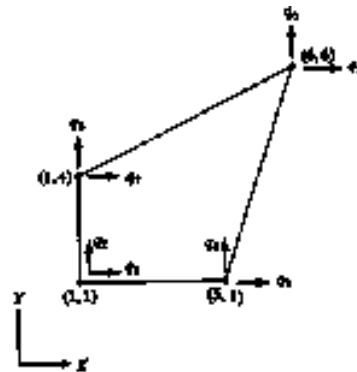

Figure-4
9. For a four node quadrilateral element shown in the Figure-4 the element displacement vector is given by $q = [0 \ 0 \ 0.2 \ 0 \ 0.15 \ 0.10 \ 0 \ 0.05]$ find